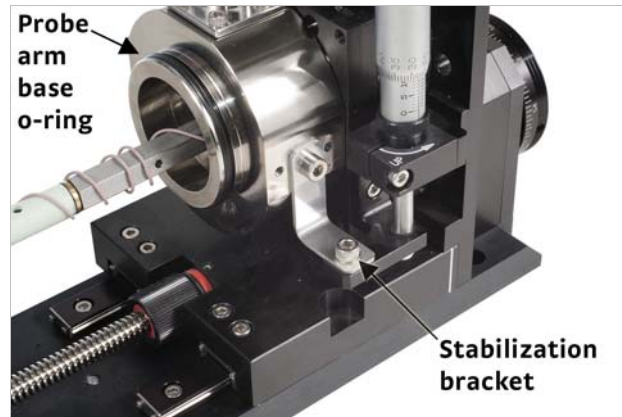

FIGURE 5-10 Orientation of the probe arm base in the z-axis stage and location of the stabilization bracket
4. If you do not have a planarization assembly, loosen the M4 screw that holds the stabilization bracket to the probe arm base (FIGURE 5-10).
1. Insert the probe arm base into the z-axis stage. Orient the probe arm base as shown in FIGURE 5-10, and hold it in place. Precise alignment is not necessary.
3. If you do not have a planarization assembly, using the 3 mm hex driver, tighten the M4 screw to secure the stabilization bracket to the probe arm base (FIGURE 5-10).
6. Clean the o-ring groove in the probe arm base (FIGURE 5-10). Clean, inspect and lightly grease the o-ring with vacuum grease and place it in the groove.